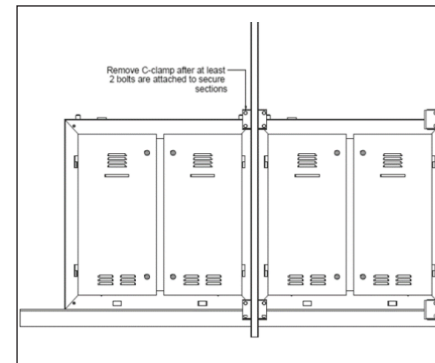

Figure 7: First Two Sections Installation
- After installing at least 2 bolts on the attachment plates (one on each side of the structure), the C-clamp can be removed. Refer to **Figure 7**.